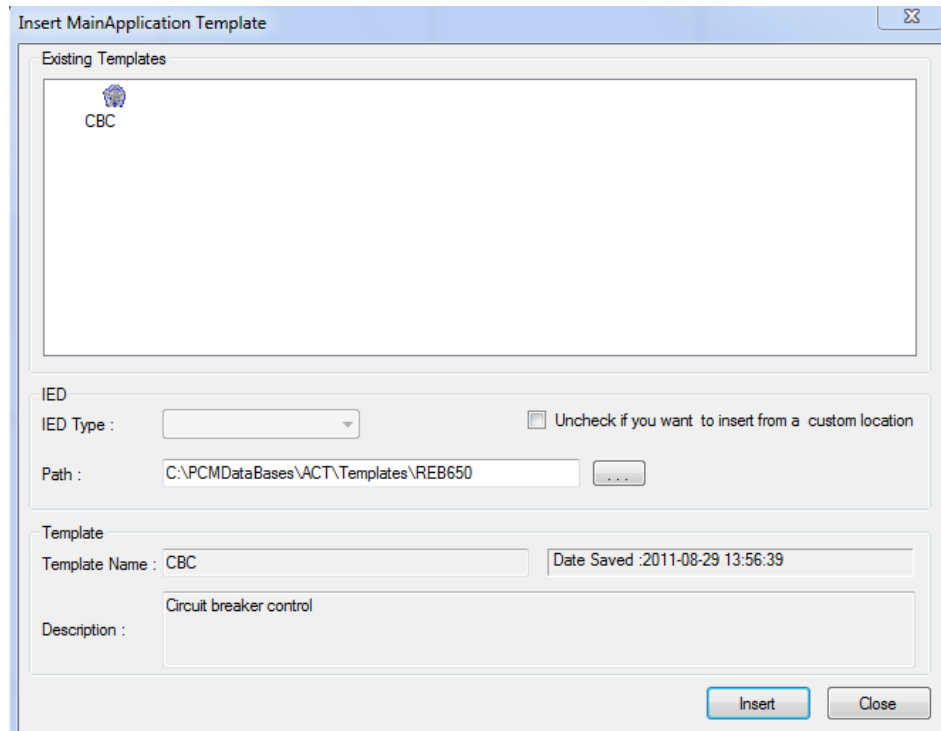

Figure 2 Insert CBC main application template
- Select CBC and insert it to the configuration, see figure 2